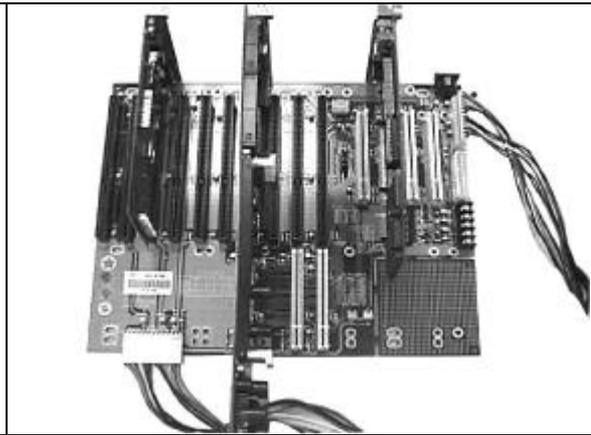

Fig. 2
1. If you use AT power supply, please apply the P8/P9 connector over CN1 or CN10. If you have two sets of P8/P9 connectors, you may apply both of them over CN1 and CN10 (**Fig. 2**) to have more balanced power distribution.